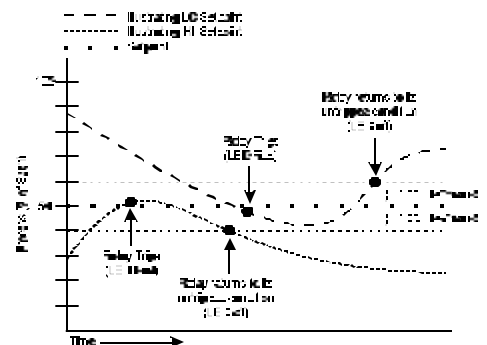

Figure 1: Limit alarm operation and effect of deadband(s)
input change required to reset the limit alarm to an untripped condition, measured from the point of trip, and expressed as a percentage of the input span. Single and Dual trip limit alarms have adjustable deadband(s) from 0.25% to 100% of span and are normally set at 0.25% (see figure 1).
- X** LO or LO/LO Alarm (relay(s) trip when input falls below setpoint, see figure 1).